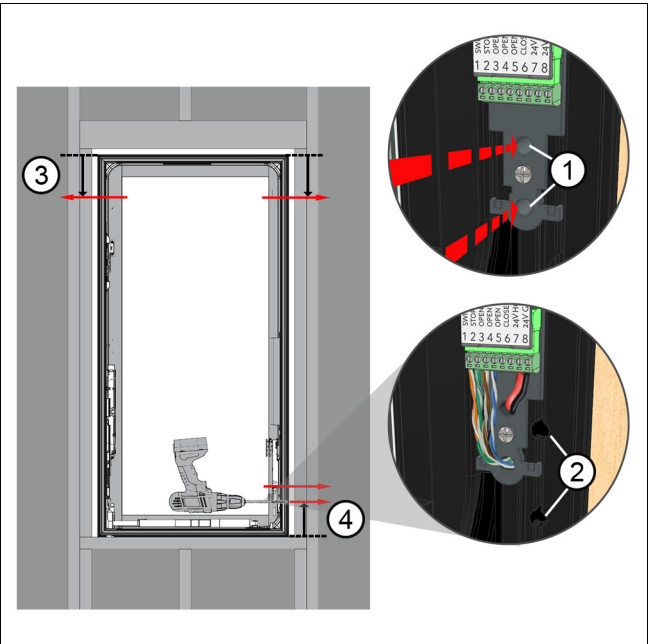
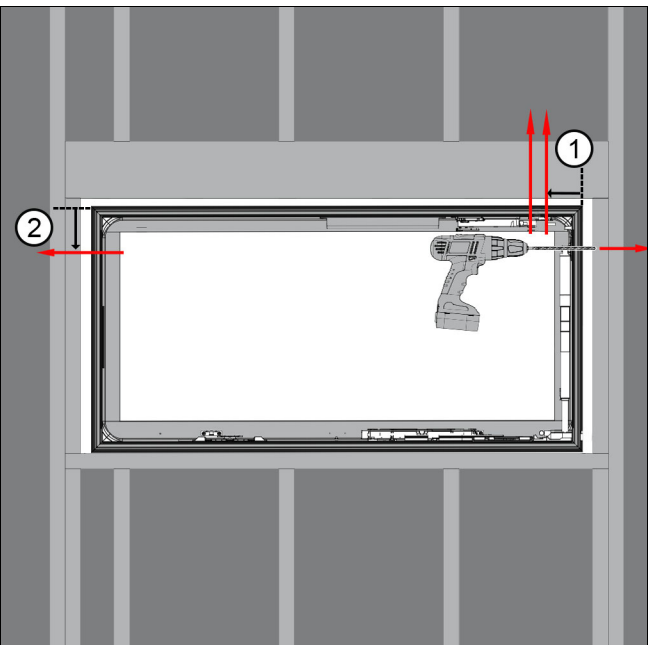

Figure 1 Casement: red arrows denote factory installation holes.
Figure 2 Awning: red arrows denote factory installation holes.
1. Pull all necessary wire into the window frame. Power wire needs to support 1 Amp of 24Vdc (16 or 18ga. wire is recommended.) Figure 1 and Figure 2 show the location of the pre-drilled holes in the window frame to run power to the control board. Choose one of the locations, then drill a 1/4" hole through the rough opening. The drill bit will fit through the pre-drilled frame hole and then may need to penetrate plastic or wood shims, this is normal. When running the wires, use wiring methods that are compliant with all local, applicable codes and practices. See Figure 1
If one of the holes shown in location 3 on Figure 1 is used, ensure wire jacketing is not punctured or torn when pulling through the frame. If necessary, use small wire tie downs to ensure the wire runs along the frame and will not interfere with the interior covers when installed. See Figure 1 and in Modern Installation Instructions.
2. If desired, wire can be run to connect the dry contact terminals to a 3rd-party switch of other control mechanism. Use the pre-drilled hole locations shown in Figures 1 and 2 to run the wire. Cat5 or Cat6 wire is suggested for dry contact wiring. .